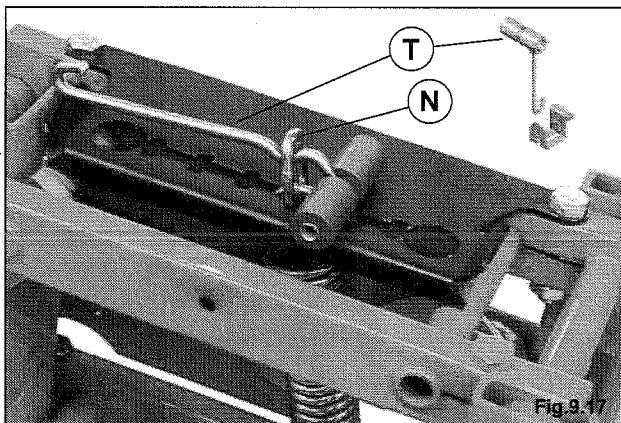

Fig.9.17
1. Position spring **A** in its "high" position (Fig.9.17);
- Insert tie rod **T** in ring **N** as shown in (Fig.9.17).